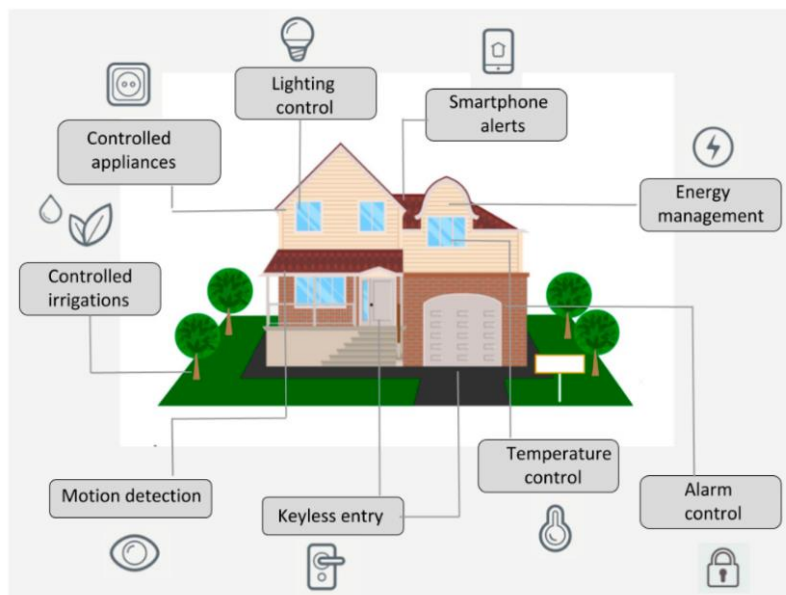

Fig. 1 : Overview of home automation process using IoT concepts
enhancing their lifestyle and improving the overall living experience. To illustrate the components and functionality of smart home automation using IoT, we can refer to the following diagram shown in the Fig. 1. The diagram showcases the interconnected nature of devices and systems within a smart home [3].
**Cloud Infrastructure:** Smart home automation systems often utilize cloud infrastructure for data storage, analysis, and remote access. The cloud allows homeowners to access their smart home functions and data from anywhere in the world as shown in the Fig. 1 [8].